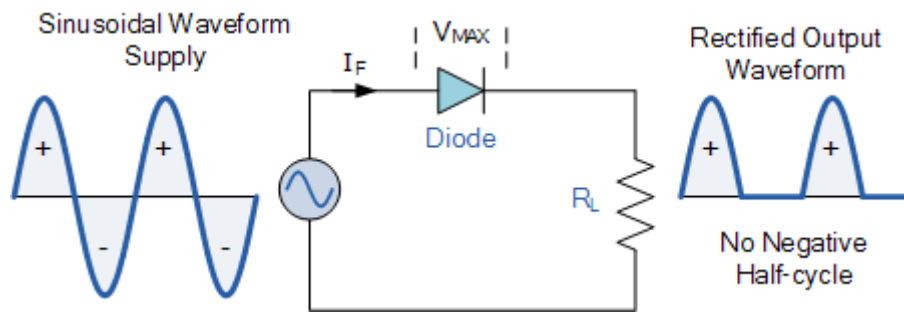

Fig 2. Half-wave rectifier with resistive load
1. Using LTSpice, consider a 15V DC source instead of AC source in the circuit in Fig. 2 and $R_L = 3.3k$. Find the diode voltage and diode current.